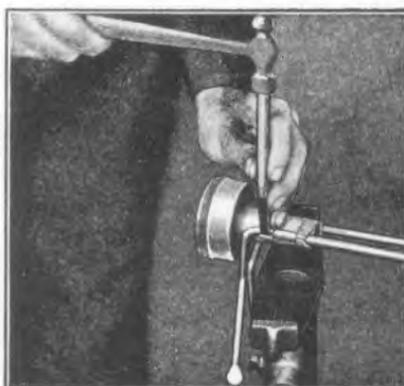

Fig. 392
- 756 Steering gear case is removed from rods by spreading ends of rod guides (See "A" Fig. 392).